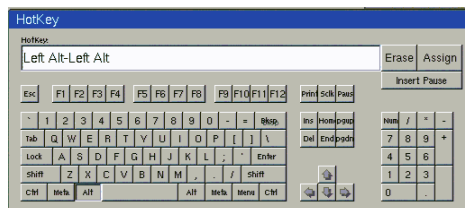

Figure 43 HotKey keyboard
- Click **Define**. The HotKey keyboard appears. See Figure 43